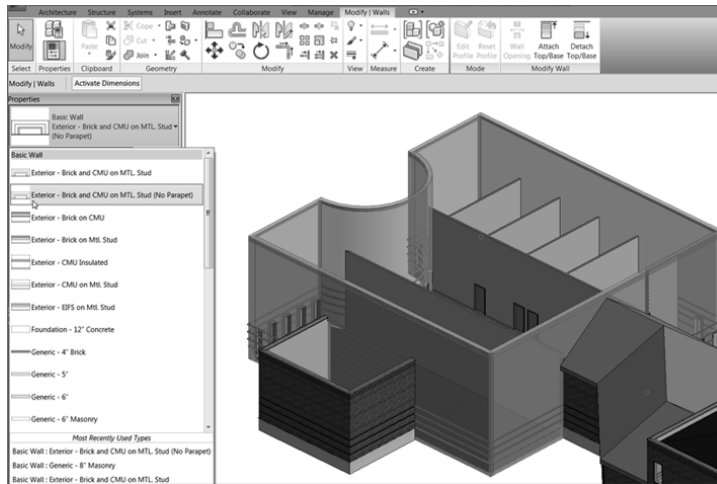

FIGURE 7.38: Changing the walls to Exterior – Brick And CMU On MTL. Stud (No Parapet)
2. Select the west wing exterior walls (see Figure 7.38).
3. In the Type Selector, select Exterior – Brick And CMU On MTL. Stud (No Parapet), as shown in Figure 7.38.